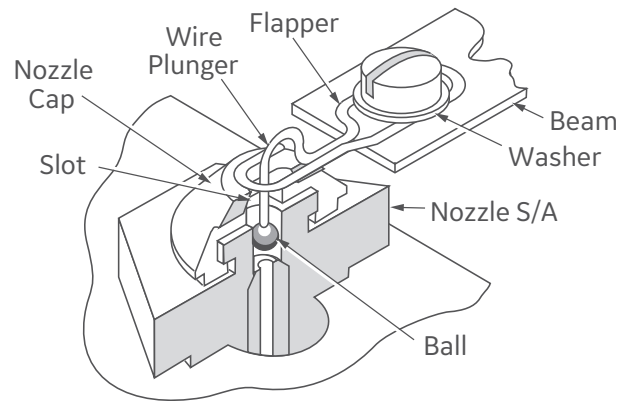

Figure 6 : Nozzle and flapper system
- Inspect nozzle cap to insure slot in top of nozzle cap is parallel with beam as shown in Figure 6. If cap is not parallel with beam, carefully rotate nozzle cap until slot in top of cap is parallel with beam as shown.
- Inspect wire flapper to insure wire plunger is centered in nozzle cap slot, and hole in nozzle as shown in Figure 6.
- Gently depress coil with finger and adjust stop (44) until output is between 0,069 and 0,103 bar (1 and 1,5 psi). Tighten lock nut to retain stop adjustment.